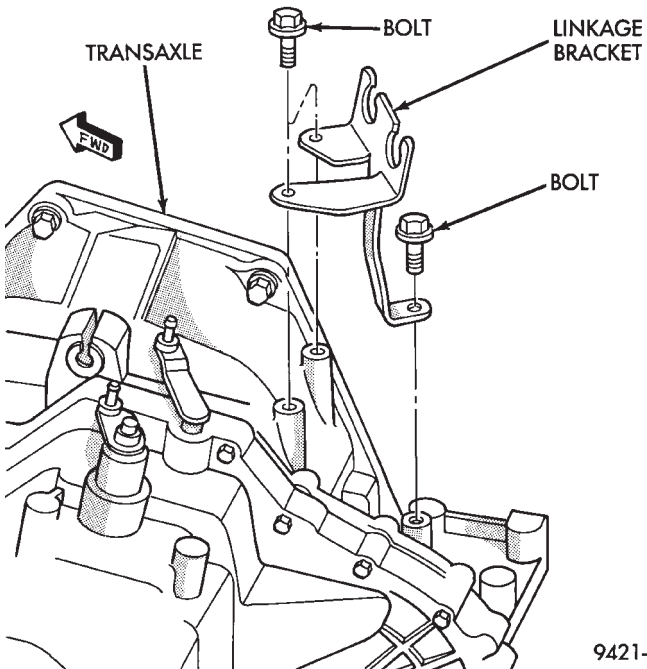

Fig. 21 Linkage Bracket Bolts
(6) Remove shift cable mounting bracket (Fig. 21).